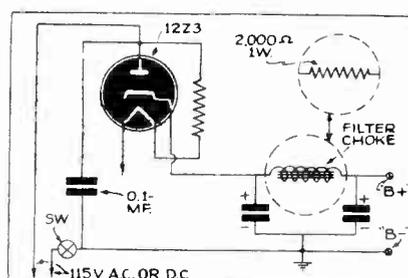

Fig. 4. The rectifier and filter circuit.
amount of wire will change the reading considerably. Heavy wire soldered onto the lugs supplied at the terminals must be used for connections to insure low-resistance connections. A final check should be made after mounting. Note that the resistance of the switches, shown in Fig. 4, must be taken into consideration.
It is possible to use this procedure on any scale; in extending the scale, however, it is common to use a scale from which you can obtain a direct reading by multiplying the reading by a common factor. In the example used you multiply by 10 to give you the actual reading. In multiplying by 10 you simply add a zero. Thus the reading is almost direct. Fig. 4 shows how the multipliers are applied to the meter.
**Rectifier Circuit Variations.** A single 12Z3 rectifier tube or even a type 37 triode with grid and plate connected together may be found in a circuit arrangement like that in Fig. 4. Since supplying field excitation to a dynamic speaker would place too heavy a drain on the rectifier, you may expect to find a magnetic loudspeaker in a receiver having this power pack circuit. The 0.1-mf. condenser connected across the power line tends to prevent interference from entering the receiver by way of the power line. Oftentimes a 2,000-ohm, 1-watt resistor is used in place of the more efficient but bulkier and more costly filter choke, as indicated inside the dotted circle in Fig. 4.